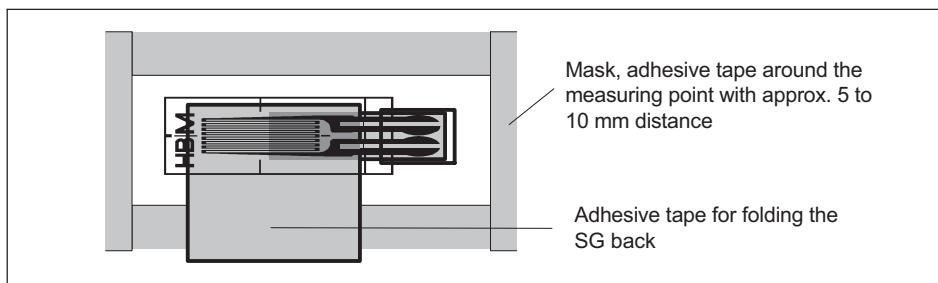

Fig. 5.4 Preparing the SG installation point
- ▶ Apply adhesive tape around the installation area at a distance of approx. 5 to 10 mm (see *Fig. 5.4*).